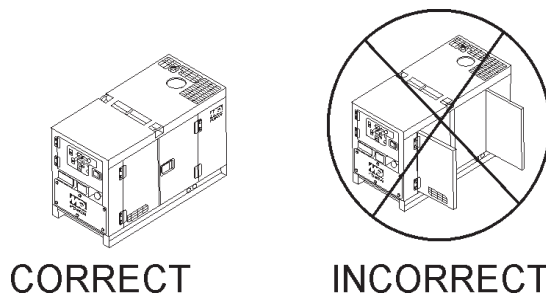

Figure 38. Engine Enclosure Doors
3. Close all engine enclosure doors (Figure 38).